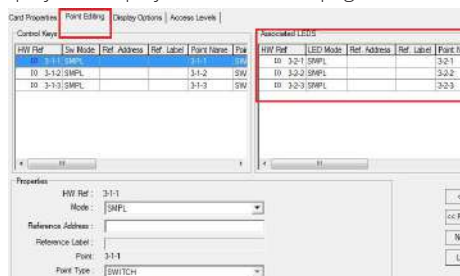

Fig 36: The Display tab:Display Checkboxes
3. Click the **Point Editing** tab, see Figure 36: The Display tab:Display Checkboxes on page 39.